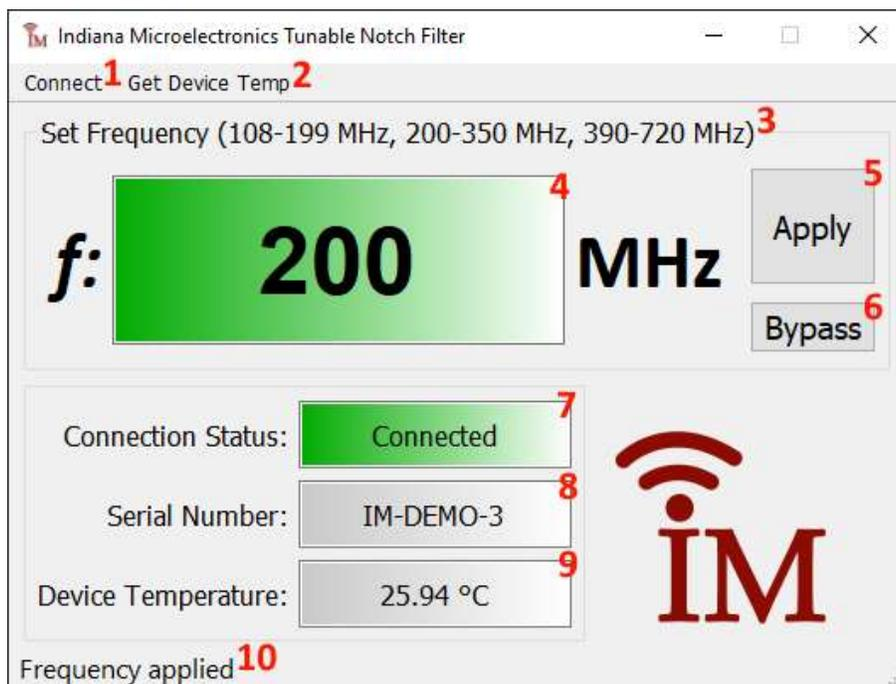

Figure 6. Tunable Notch Filter Control Software
The IM2103DC demo unit is provided with control software for ease of testing. To run, connect the filter and the provided USB thumb drive to the same Windows machine. Launch *TunableNotchFilter.exe*. The user interface is detailed below in Figure 6 and Figure 7:
1. Some devices have multiple ranges of valid tune states. Values between listed ranges are invalid (e.g., 375 MHz in the Figure 6 example). Bounds of listed ranges are inclusive.